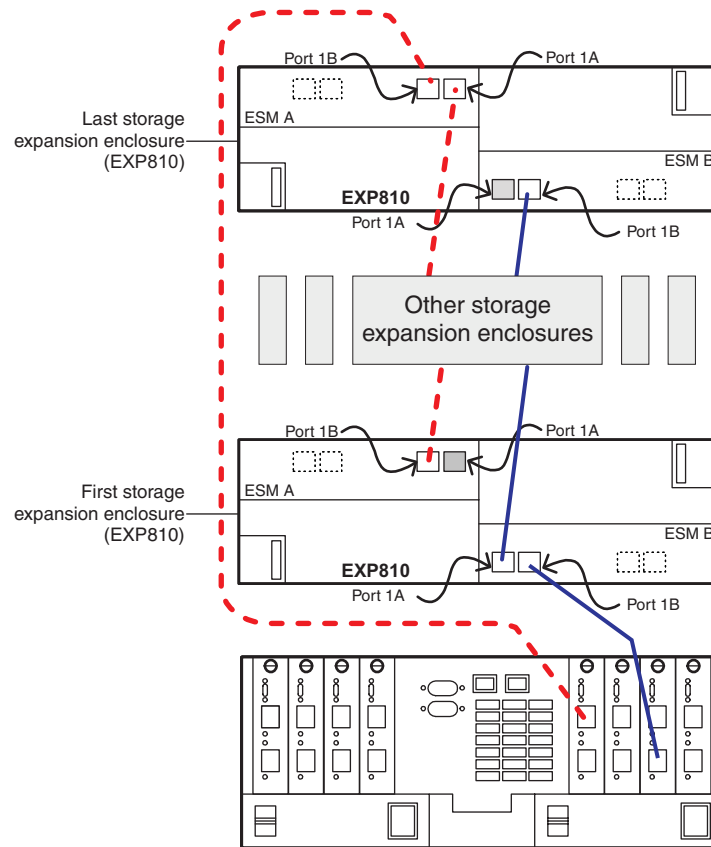
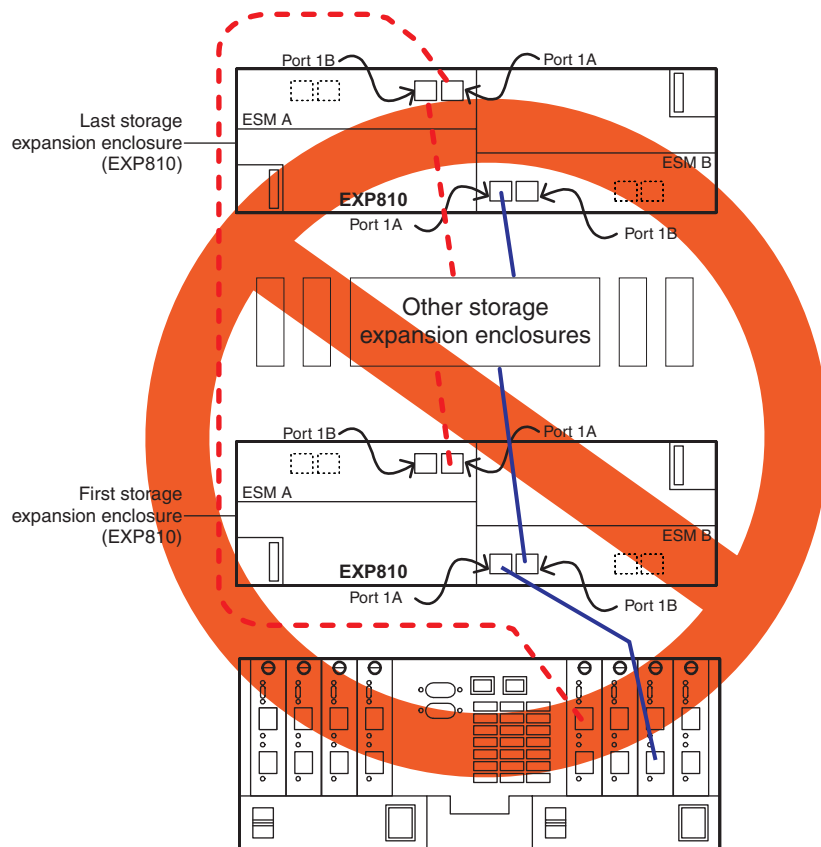

Figure 15. Supported cabling to EXP420/EXP520/EXP810/EXP5000 storage enclosure port 1B
Figure 16. Unsupported cabling to the EXP420/EXP520/EXP810/EXP5000 storage enclosure port
- The storage subsystem drive expansion port must always be connected to the EXP420/EXP520/EXP810/EXP5000 storage enclosure port 1B. Figure 15 on page 51 is an example of correctly cabling the EXP420/EXP520/EXP810/EXP5000 storage enclosure 1B ports to the storage subsystem drive expansion port. Figure 16 on page 52 is an example of incorrect cabling showing the connection from the storage subsystem drive expansion port to the incorrect EXP420/EXP520/EXP810/EXP5000 storage enclosure port, labeled 1A.